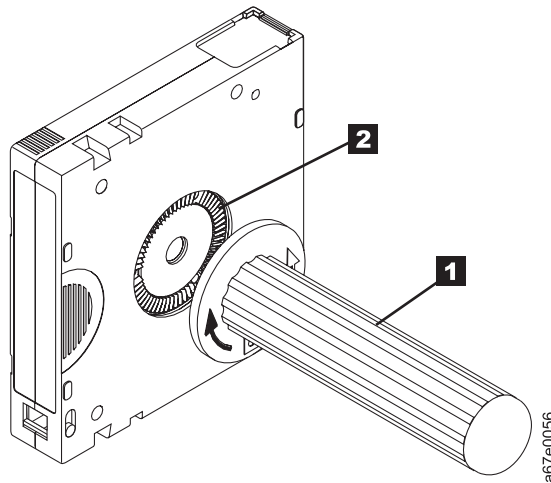

Figure 8-10. Rewinding the tape into the cartridge
5. To rewind the tape, insert the cartridge manual rewind tool (**1** in Figure 8-10) into the cartridge's hub (**2** in Figure 8-10) and turn it clockwise until the tape becomes taut.